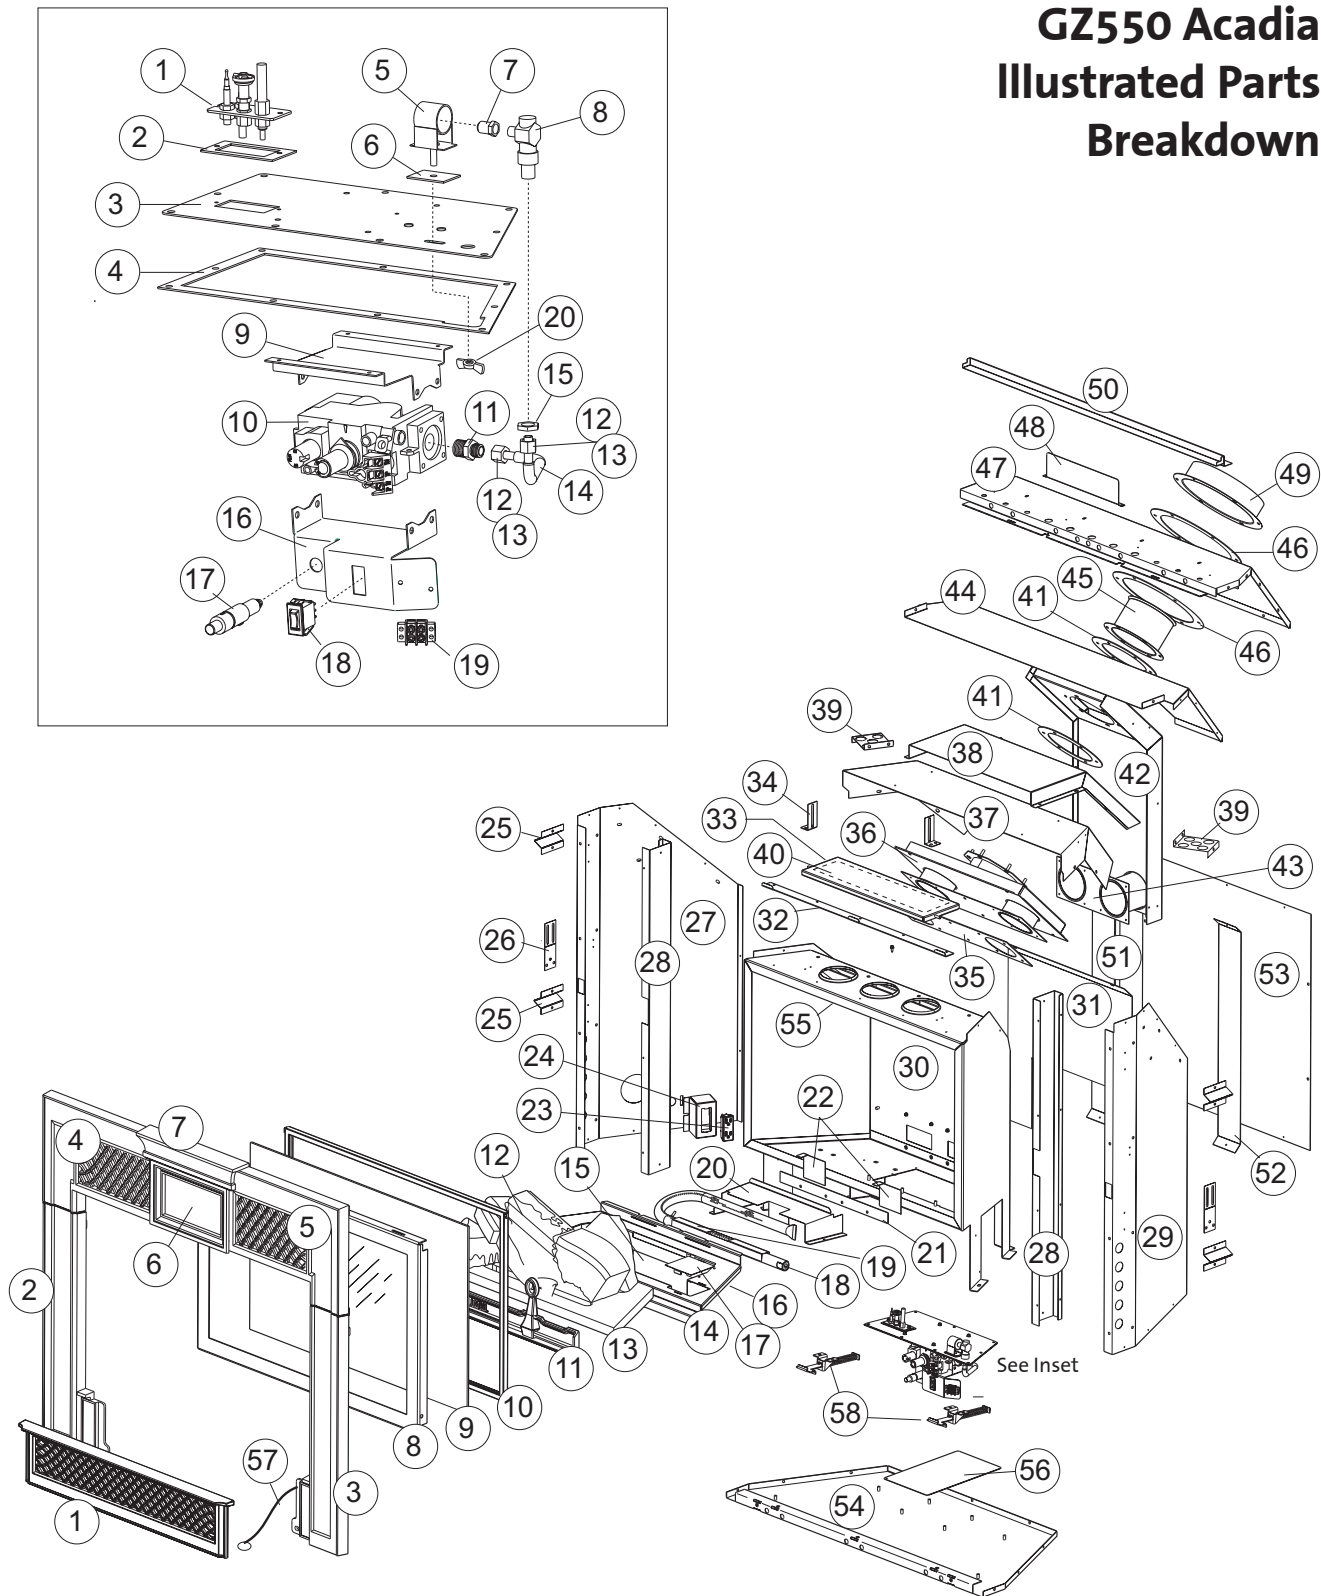

Figure 52.
2. Install each of the Side castings onto the cabinet by engaging the hanger tabs with the holes in the cabinet frame. See Fig. 52 for orientation.